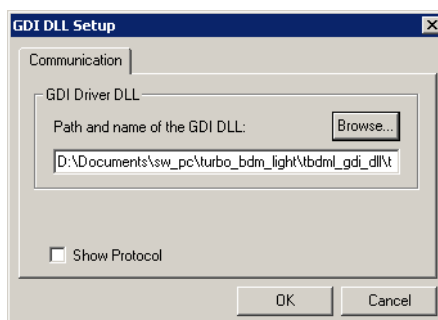

**FIGURE 8. Finishing the installation**
5. Once the installation procedure is finished the device will be ready to use (see figure 8). Restart of Windows should not be needed.